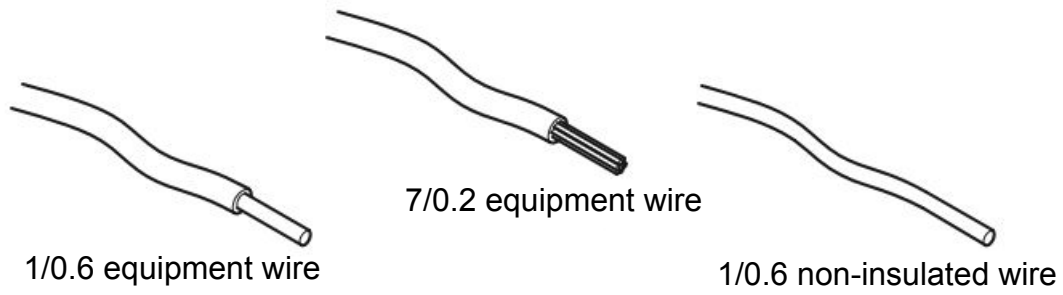

Fig. 30
- (i) Fig. 30 shows three types of connecting wire that could be used to connect a switch to a circuit board.